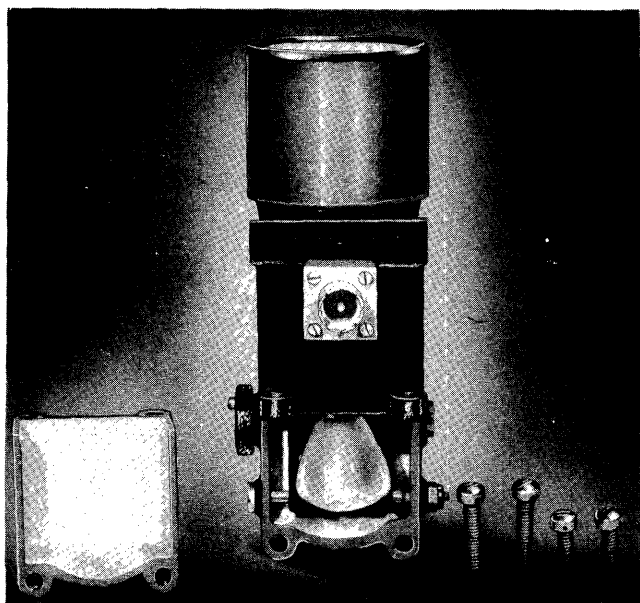

Figure 105C
1. Remove the four large screws in the lamp house cover. (See figure 105C.)